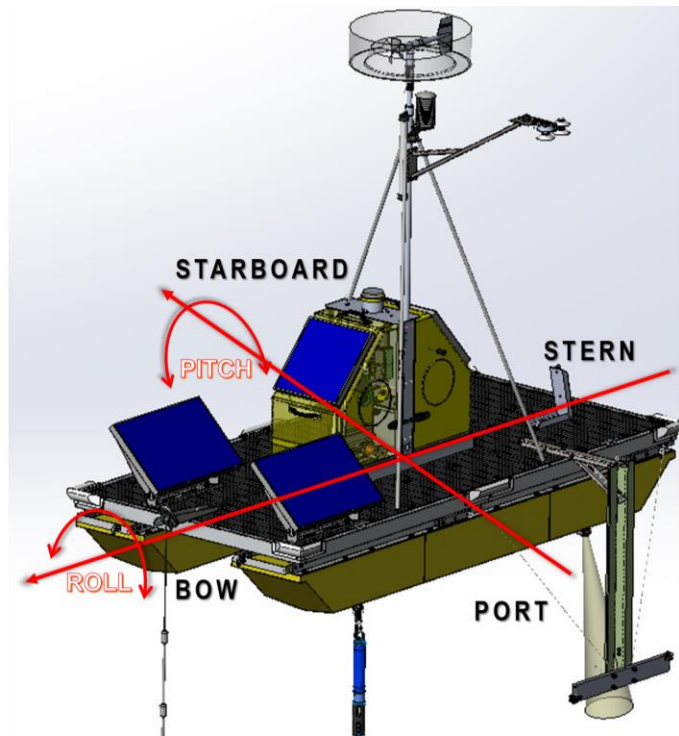

Figure 86. AIS Buoy Pitch and Roll Diagram
- i. Take a digital level and measure the PITCH by placing it on the top of the floating deck along the centerline (at the bow, to measure from bow to stern). Positive PITCH is bow above stern. Capture this measurement in the boat next to the AIS Buoy (your movement can influence the measurement). See Figure 86 for reference.
- ii. Take a digital compass and measure the ROLL from port to starboard. Positive ROLL is port above starboard. See Figure 86 for reference.